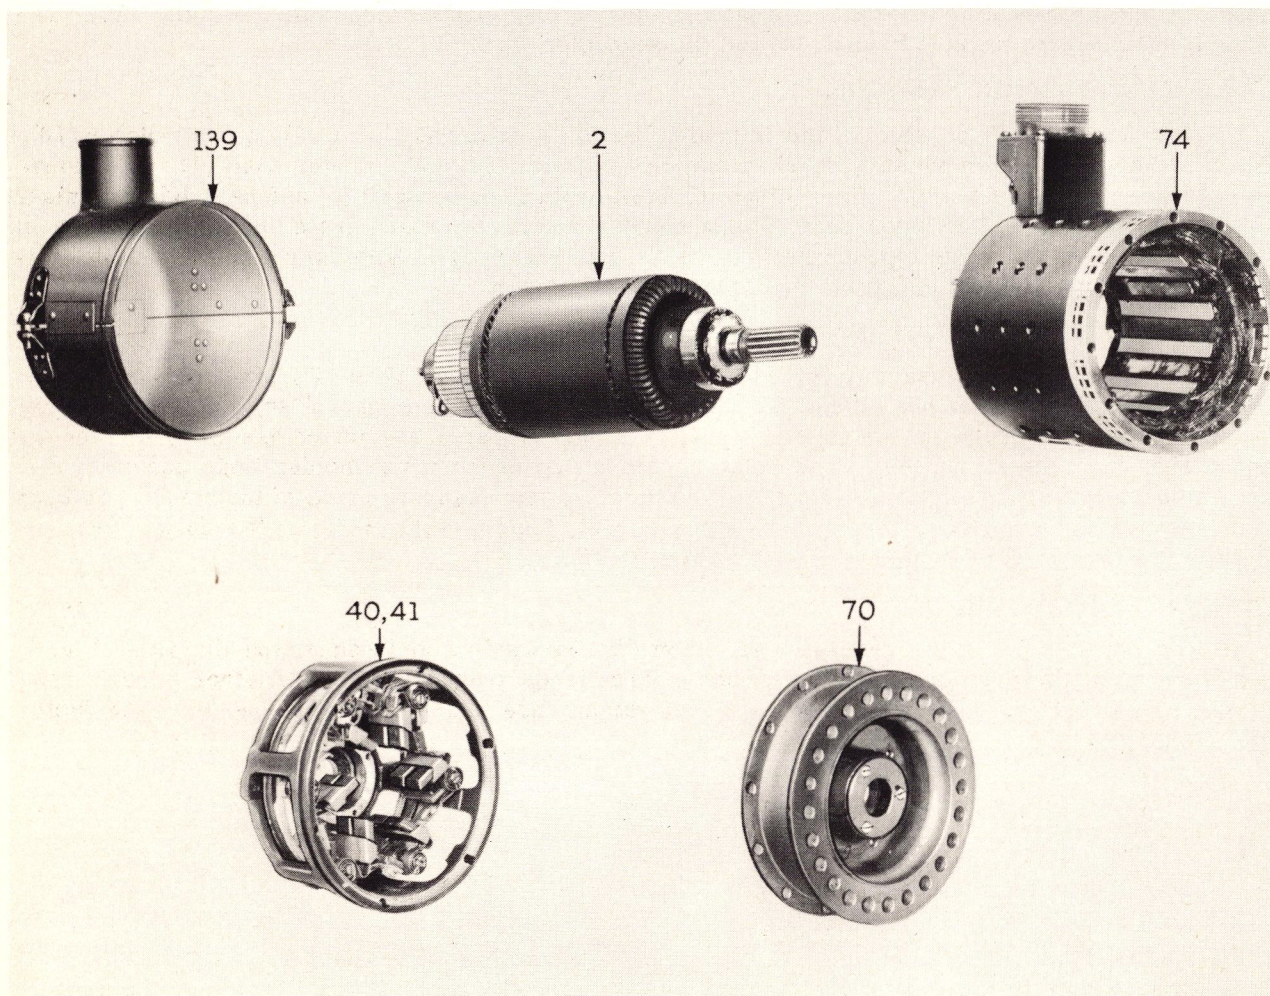

Fig. 3. Principal Subassemblies of Generator
a. The Model 2CM70B1 generator consists of the following main subassemblies (see Fig. 3): Field assembly (74), armature assembly (2), brush-rigging assembly (41), mounting flange (70), commutator-end shield (40), and air-blast cover (139).